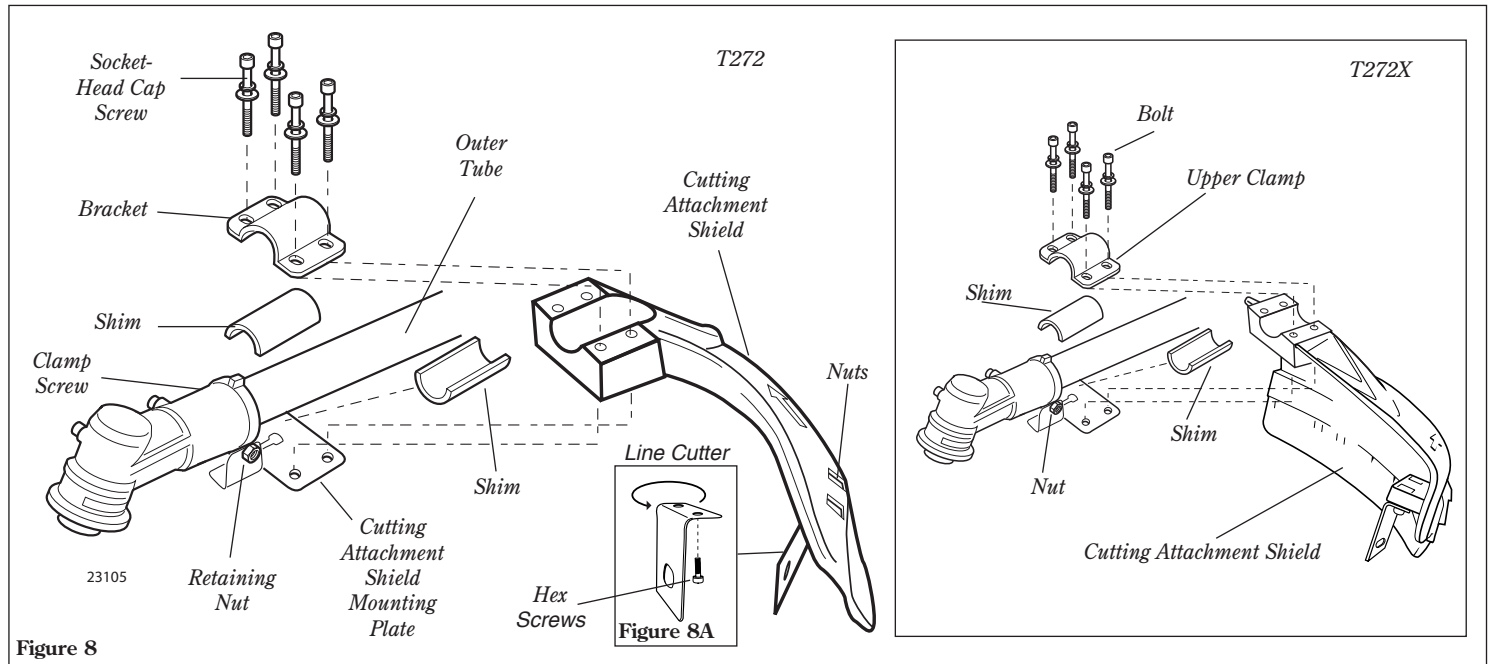

Figure 8
1. Insert the cutting attachment shield between the outer tube and the cutting attachment shield mounting plate. See Figure 8.
2. Fit the two shims and the bracket over the outer tube and loosely install the four socket-head cap screws. See Figure 8.